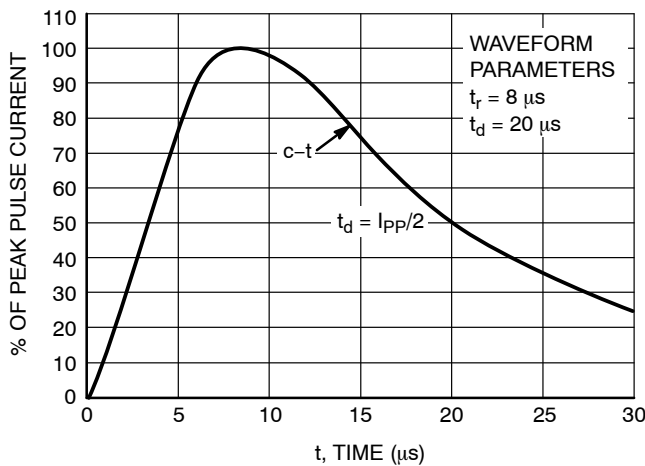

Figure 1. Pulse Waveform, 8/20 μs
1. Non-repetitive current pulse per Figure 1.
4. Pulse waveform per Figure 1.